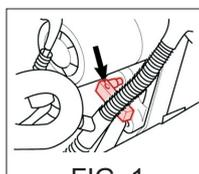

FIG. 1
- Lock pin (FIG. 1)
- 2 Check timing marks (1) and (2) [FIG. 4] are aligned. Then, fit the lock pin [FIG. 1].
- 7 Check timing marks (1) and (2) [FIG. 4] are aligned and fit the lock pin [FIG. 1].